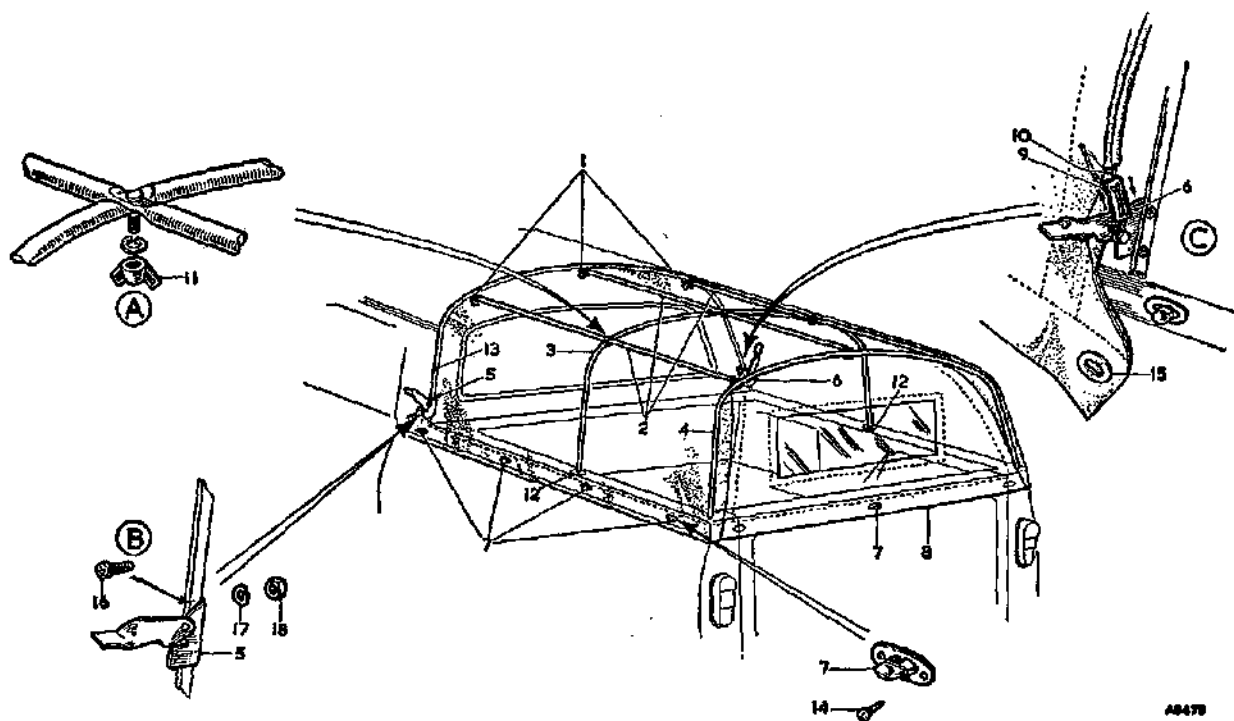

Fig. R.3
- (1) Fit the rear hoop ends into the sockets at either side of the rear end of the body. Ensure that the three brackets attached to the top of the hoop face forwards.
- (2) Fit the centre hoop ends into the sockets at the centre position.
- (3) Engage the studs of one of the struts in the hole in the centre bracket at the top of the rear hoop, the centre hole pierced in the top of the centre hoop, and the hole in the centre bracket attached to the rear of the cab at the top (see Fig. R.3). Fit a spring washer and wing nut to each stud and tighten fully (inset (A) of Fig. R.3).
- (4) Repeat this operation with the other two struts, using the fixing holes in the brackets and centre hoop either side of the central fixing points.
- (5) Place the R.H. lever bracket assembly on the rear face of the channel fixed around the rear of the cab with the drilled face of the bracket against the channel, its lower edge approximately in line with the top edge of the seam (body cross-member to cab). The lever attached to the bracket must face outwards and the lever pin must face forwards.
drilled face of the bracket onto the body and drill two holes $\frac{3}{8}$ in. (5-16 mm.) diameter. Fix the bracket to the channel with two of the No. 10 pan-head screws, nuts, and spring washers, the heads of the screws facing outwards (see inset (B) of Fig. R.3). Repeat this operation with the L.H. bracket on the L.H. side of the channel.
- (6) Lay the tilt cover, smooth face upwards, over the tilt frame with the fixing cable at the front.
from the bottom face of the plate, and returns down through the corresponding hole at the top. By adjusting the position of the cable in the plate the length of the cable can be varied as necessary (see inset [c] of Fig. R.3).